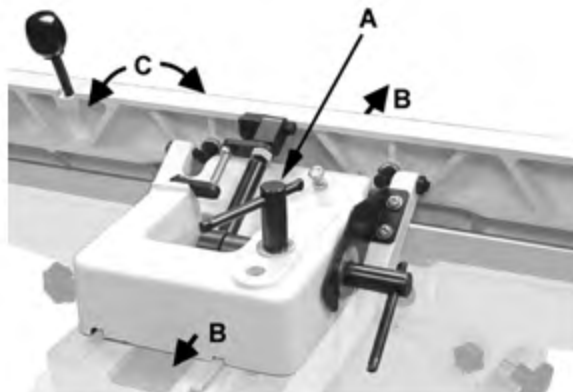

Figure 8-2
1. Loosen locking handle (C, Figure 8-2).
2. Move the lever forward (A, Figure 8-2) to the desired angle down to 45 degrees. Or you can place your reference piece on the table and against the fence and adjust the fence until the angle of the fence matches the bevel of your gauge piece.
3. Tighten locking handle (C, Figure 8-2).
2. Loosen locking handle (C, Fig. 8-2).
3. Flip the 90° stop block (D, Fig. 8-2) out of the way.
Move the lever (B, Fig. 8-2) back to the desired angle up to 135 degrees. Or you can place your beveled reference piece on the table and against the fence, adjusting the fence until the angle of the fence matches the bevel of your gauge piece.
5. Tighten locking handle (C, Fig 8-2).
4. **Important:** When the tilted operation is finished and the fence is returned to 90°, do not forget to flip the 90° stop block (D, Fig. 8-2) back to its original position.